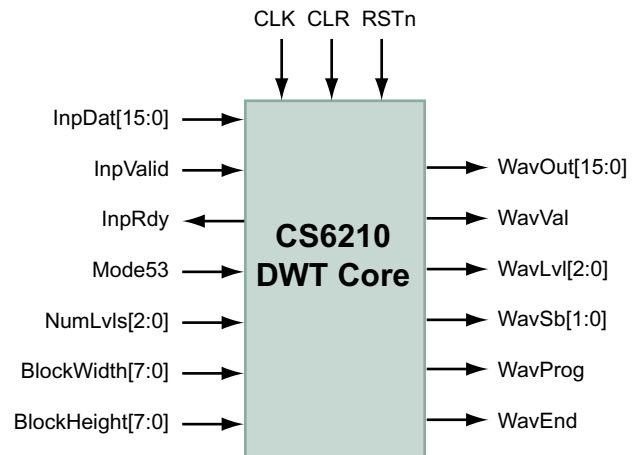

Figure 5: CS6210 Symbol
Table 2 describes the input and output ports (shown graphically in Figure 5) of the CS6210 core. Unless otherwise states, all signals are active high and bit (0) is the least significant bit.